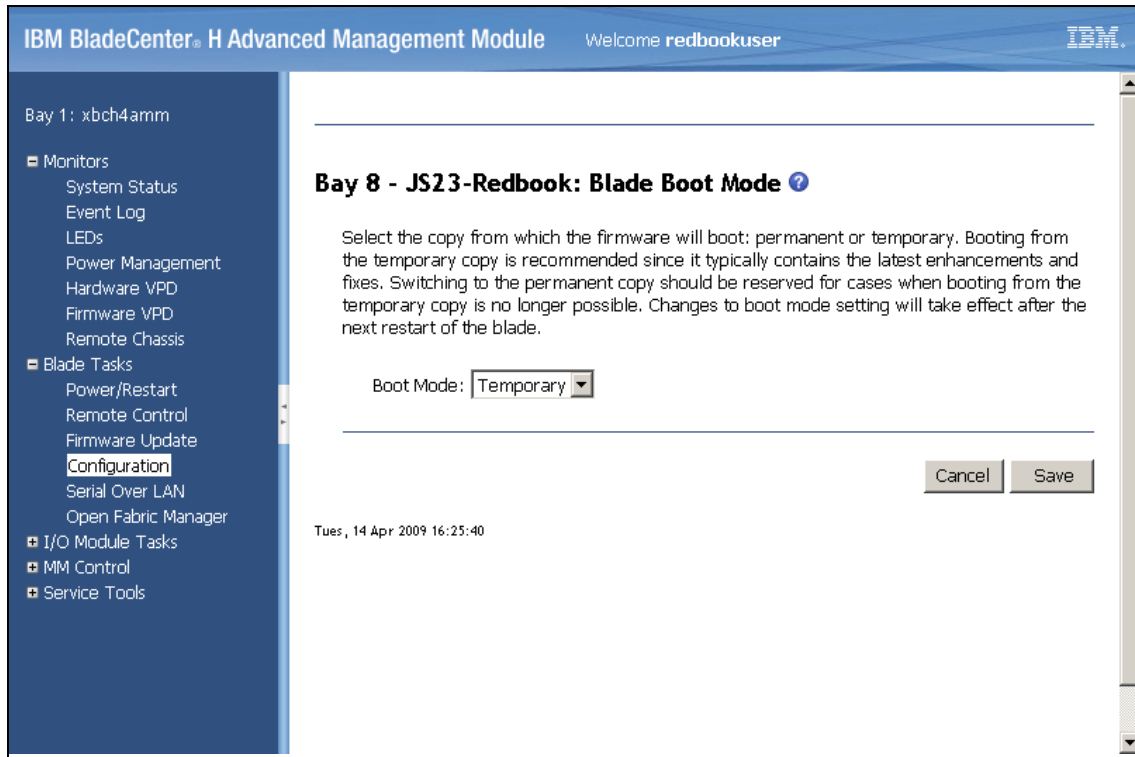

Figure 12-2 Firmware selection page
4. Select *Temporary* to force the system to use the firmware image from the TEMP side, as shown in Figure 12-2 on page 464, then click in **Save**.